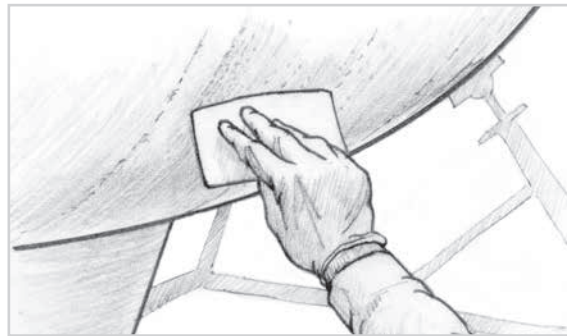

Figure 4 *Use a plastic squeegee to press the fabric securely against the hull.*
8. After applying the fiberglass strip, use a plastic squeegee to press the fabric securely against the hull (Figure 4). Use this step to draw off excess epoxy and force out trapped air bubbles. If additional layers of fiberglass are required, repeat the process. Apply additional layers while the previous layer is still tacky. This saves time and eliminates the normal wash and sand step required if the epoxy were allowed to cure hard between coats.